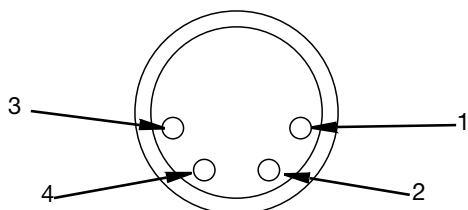

FIG. 24
e. The Voltex Controller Integration Cable, 18D171, will need to be connected to the non-Graco dispensing equipment or PLC. See FIG. 24.